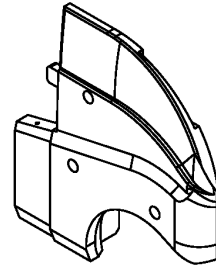

figure 2-77
- (3) Hoisting directions for Counterweight see figure 2-77